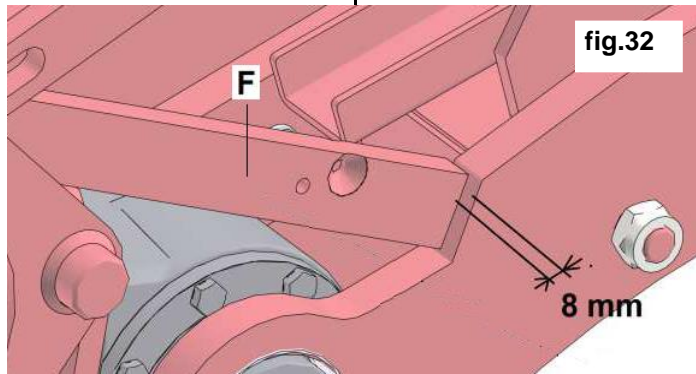

fig.32
- check the height of the chassis with respect to the ground remembering that the lifting lever **F** (fig.32) must be at a distance of 8/10 mm. from the stop.